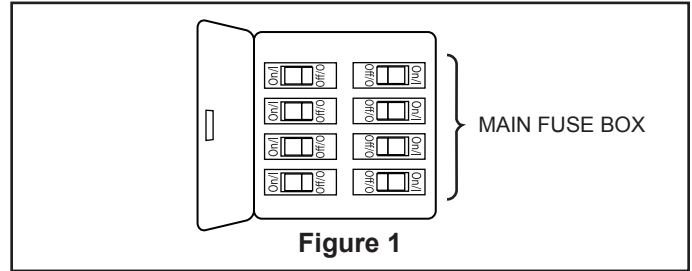

Figure 1
- ☐ 1. **Installing Wall Holder:** (Figure 1)
To avoid possible fire or shock, be sure electricity is turned off when you clean the ceiling fan. (Figure 1)